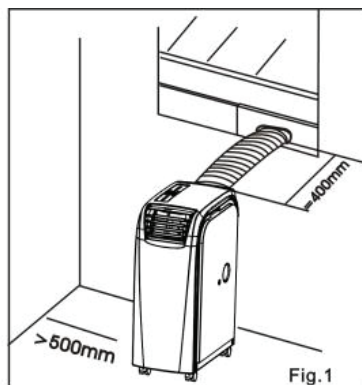
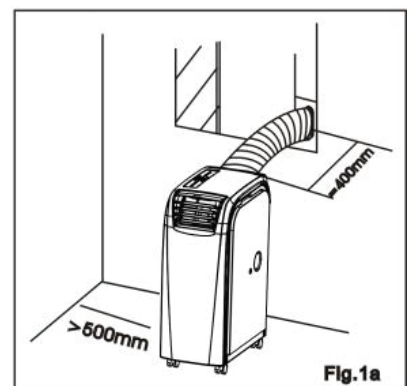

Fig.1
Fig.1a
- ◆ Install the Exhaust Hose and the Adjustable Window Slider Kit as depicted in Fig.1 & Fig.1a.